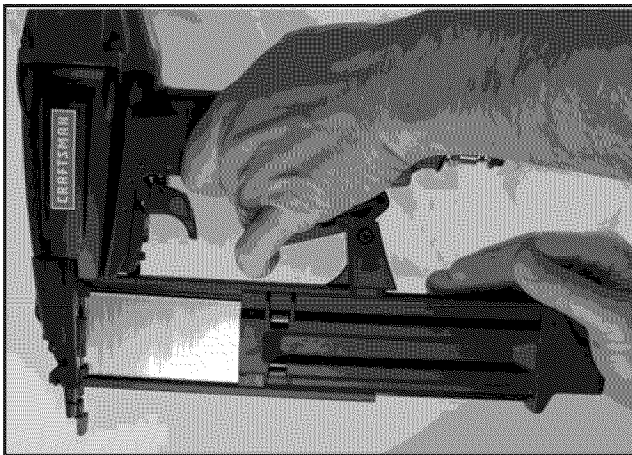

Figure 6—Close Magazine
- Slide magazine cover forward over magazine until latch snaps into place, locking magazine cover. (See Figure 6).